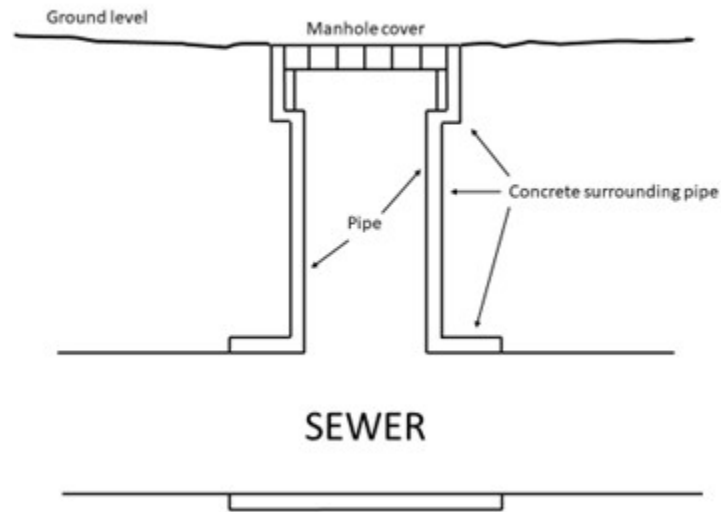

Figure 8 Lamp manhole
- Figure 8 Lamp manhole by Greg Wirachowsky is licensed under a CC BY-NC-SA licence (<https://creativecommons.org/licenses/by-nc-sa/4.0/>).